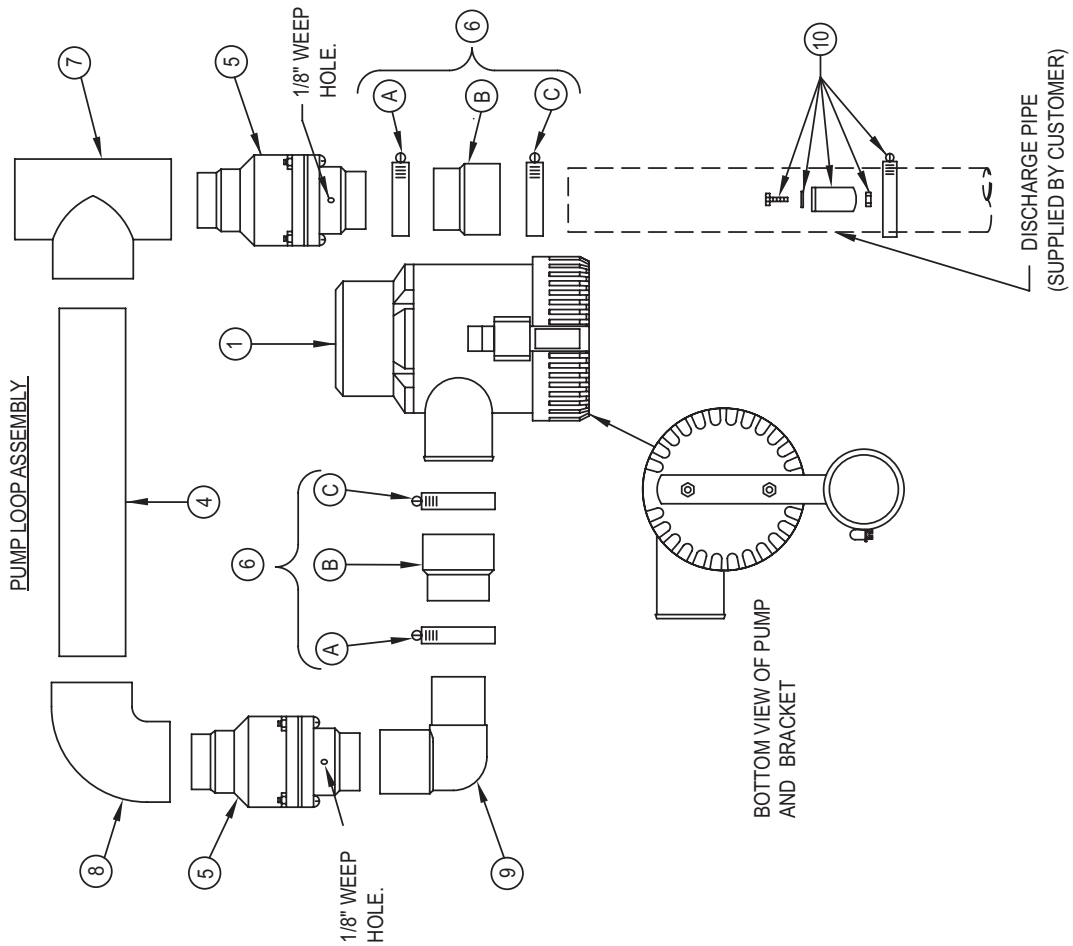

FIGURE 3
6. Remove screen from bottom of DC pump by pushing two red lock tabs inward and pulling screen free from pump. Bolt the mounting bracket (item 10, fig. 3) to the bottom of the pump screen. Use #10-24 screws, washers and nuts provided. Make sure the bracket is 90° to the pump discharge. Snap screen and bracket onto pump. (See figs. 1 and 2).
7. Screw the discharge pipe into the primary pump outlet. Tighten with strap wrench. Install the DC pump onto the discharge pipe by using the S.S. worm drive clamp provided in the mounting kit (item 10, fig 3). The bottom of the DC pump should be located 5-3/8" from the end of the discharge pipe. (See fig. 1 and 2).
8. Assemble the pipe loop (items 4 thru 9 as shown in fig. 3). Use a commercial grade of PVC cleaner and solvent cement (not furnished with kit) on all the socket joints. Tighten all pipe clamps, except lower clamps on rubber couplings, (items 6C fig. 3), used for connecting the pipe loop to the discharge pipe and pump (see figs. 1 and 2).
9. Install the pipe loop assembly, using the rubber couplings and clamps (items 6C fig. 3). Tighten all clamps.